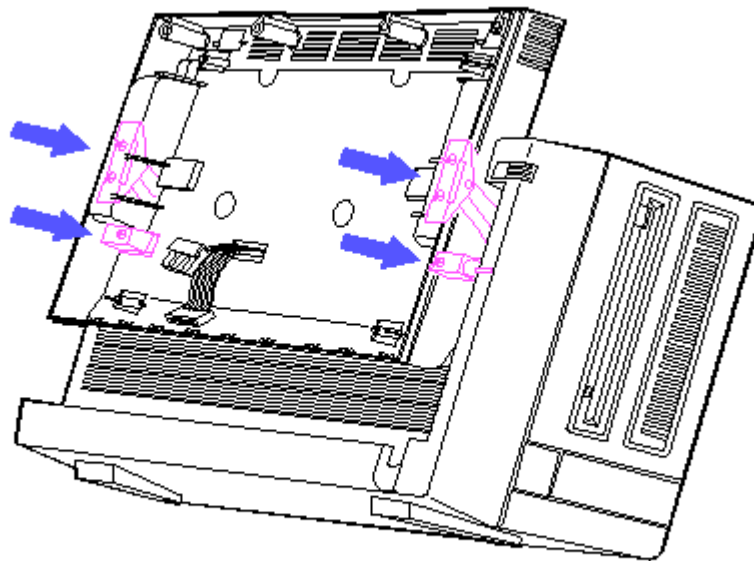

Figure 8-82. Mandrels and Plasma Display Hinges
5. Observe that the display enclosure is attached to the main enclosure by two mandrels and two plasma display hinges (Figure 8-82).